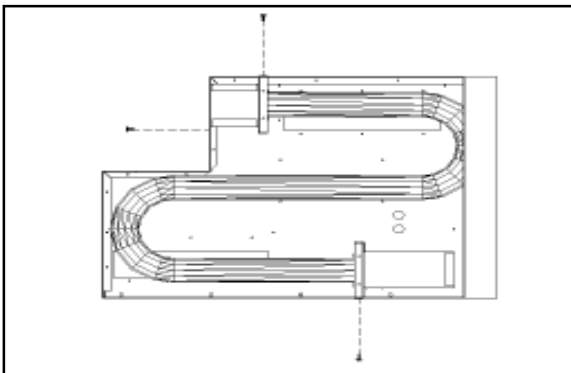

FIGURE 19
- K.) Remove screws securing collection box and burner box flange to liner top, bottom, left side, right side and back. (See Figure 19).